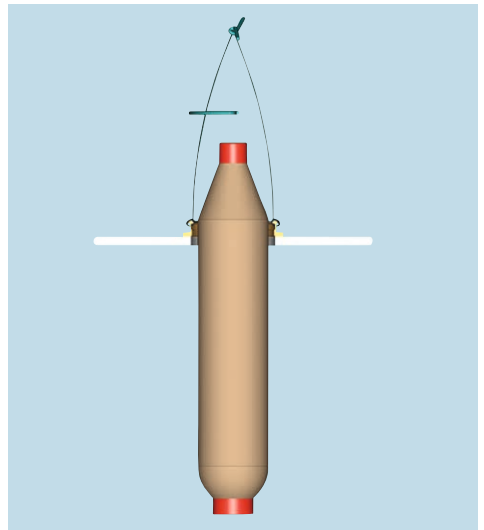

Fig. 2: Full cop
- 5 Check the balloon at full cop (Fig. 2):